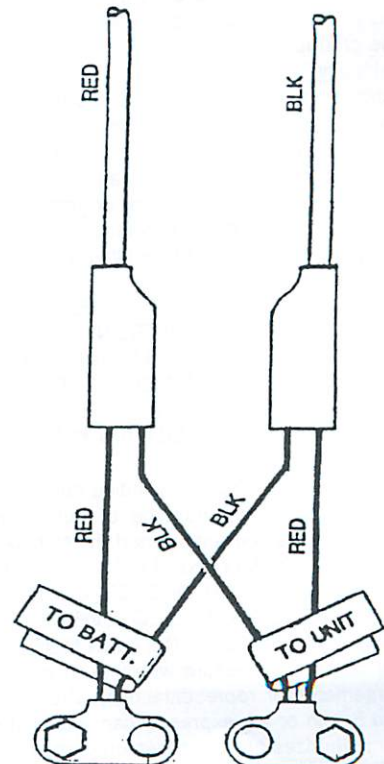

FIG. 2
5. Using the two (2) wire splices provided connect the battery connector (see figure 2) to the two wires coming through the door to the unit as follows: